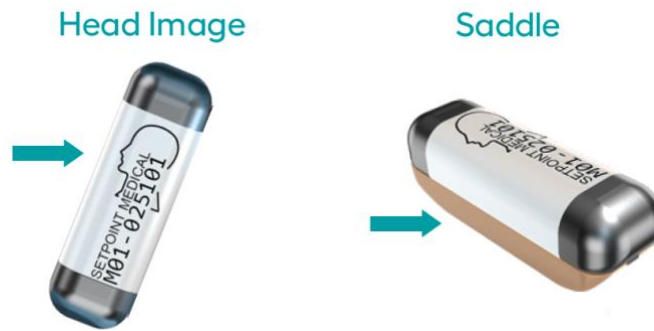

Figure 15 - Head-shaped Marking Indicating Rostral End of the Implant
6. Insert the Implant into the Pod, (see **Figure 16a-d**) with the head-shaped marking on the Implant oriented rostrally (see **Figure 15**).